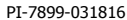

Figure 11. LinkSwitch-TN2 Minimum On-Time Test Circuit.
- I. Measured using circuit in Figure 11 with 50 Ω drain pull-up. The width of the drain pulse is measured as the time from $V_{FALL} = 42$ V to $V_{RISE} = 40$ V ($V_{DR} = 50$ V).